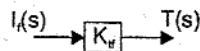

Fig 2.
In equation (5), $I_f(s)$ is the input and $T(s)$ is the output. The block diagram for this equation is shown in fig 2.